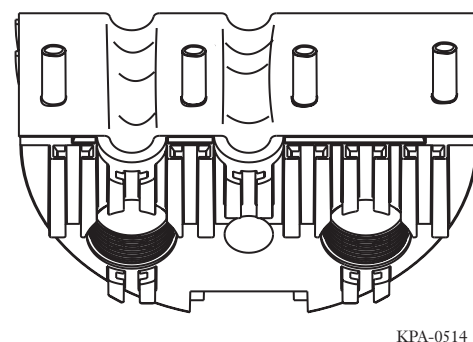

Figure 12 — End Cap Standoffs
**Step 3** Beginning with the inside of the end cap, apply sealing tape to the end cap half containing the metallic standoffs (Figure 12). Cut holes in the tape to expose the standoffs.